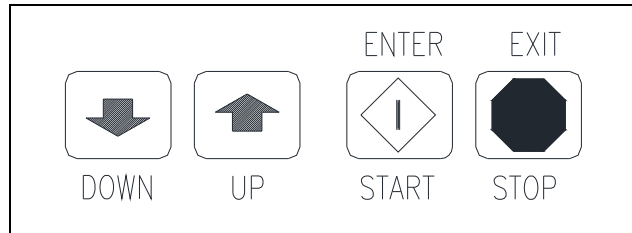

Figure 2-1: Washer Control Keypad Layout
There are four (4) push buttons that control the washer operation. Each button is shown in Figure 2-1: Washer Control Keypad Layout, followed by an explanation of each button.